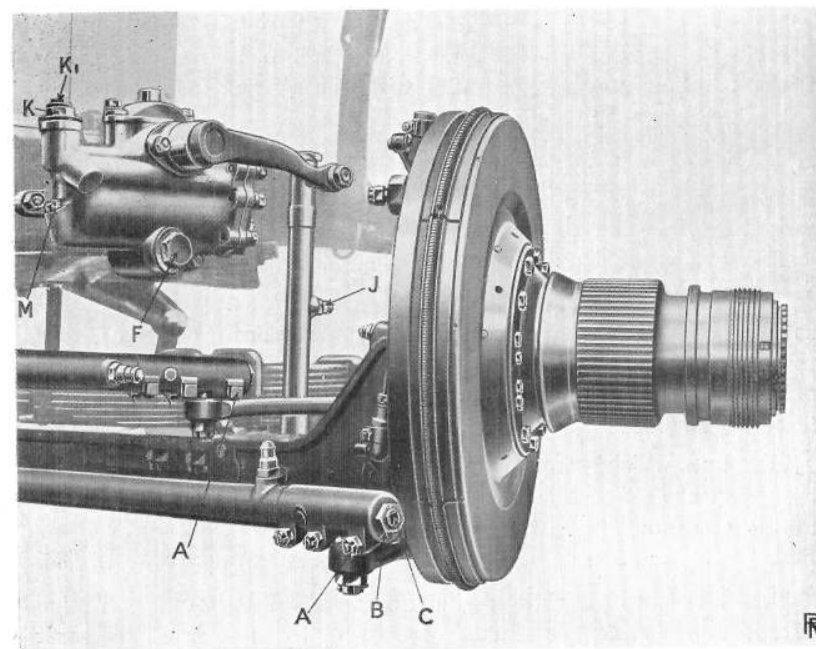

FIG. 32. CROSS STEERING TUBE.
To adjust them, the bolt **A** (Figs. 32 and 33), which is fitted with a castellated nut, should be slackened, and the locknut **B** unscrewed.
**Hydraulic Shock Dampers.** Hydraulic shock dampers of Rolls-Royce design and manufacture are fitted to both front and rear axles, as shown in Figs. 32, 33 and 34.